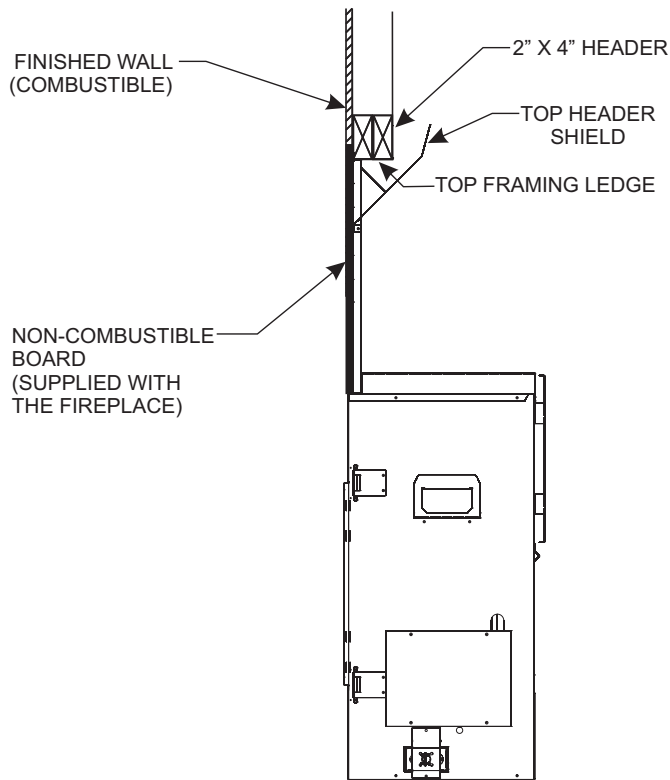

Figure 33
- Non-Combustible board installed flush to face (framing brackets at 1/2 inch set back). **See Figure 33.**
- **Figures 33 and 34** show both finishing options.